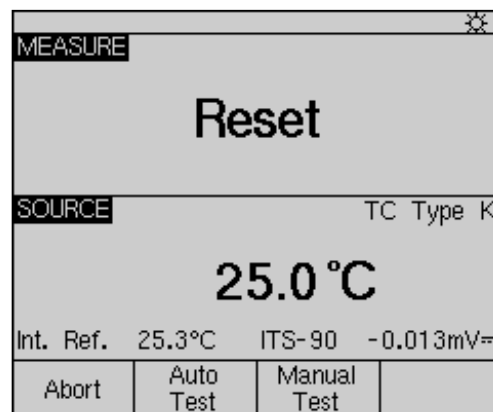
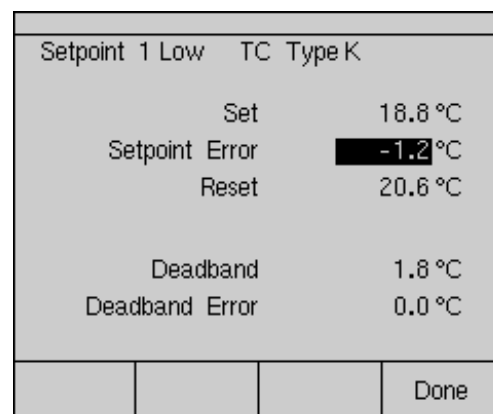

Figure 5.
Figure 6.
7. You should now be presented with the split screen in Figure 5. Select the "Auto Test" softkey and the "Continue" softkey. The DPC will now ramp the simulated thermocouple potential into the limit switch back and forth past the nominal *setpoint* and record the sourced temperature values for the actual *setpoint* and show that value in the upper lefthand corner of the DPC display. Once that is done, the DPC will then test the *reset* point of the limit switch by ramping the simulated thermocouple potential into the limit switch back and forth past the nominal (21°C-23°C) expected reset value. Once that value is recorded you should be presented with a post test summary similar to Figure 6. Errors exceeding test tolerance are recorded in inverse video.